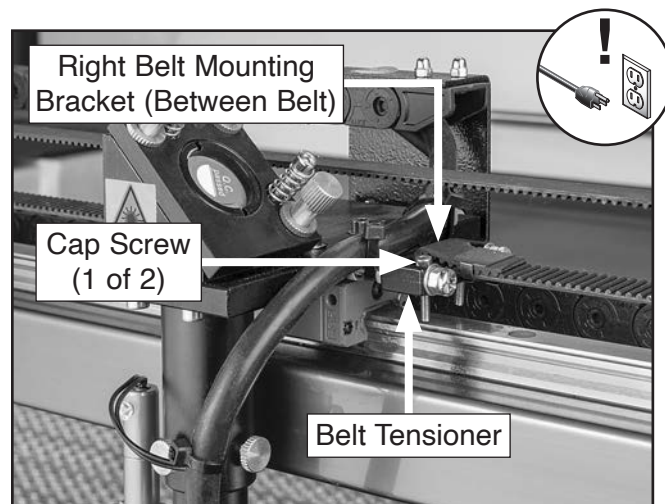

Figure 78. X-axis right belt mounting bracket location.
3. Remove (2) cap screws on right belt mounting bracket securing X-axis synchronous belt, then remove bracket from belt, as shown in **Figure 78**.